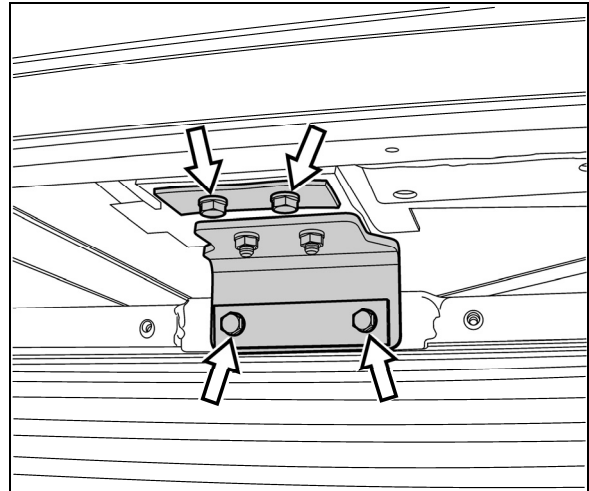

FIGURE 18: UPPER RADIATOR ASSY SUPPORT BRACKET
12. Remove the upper radiator assembly support bracket (Fig. 18).